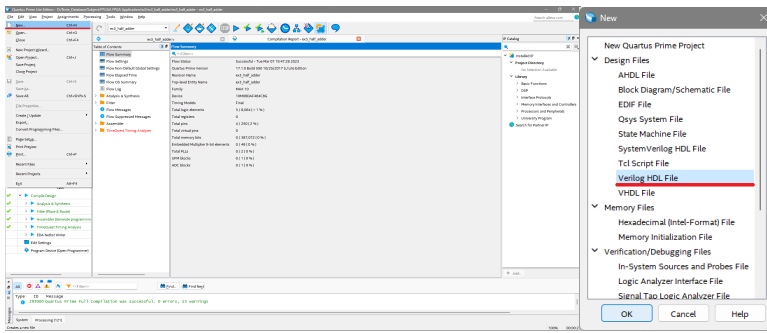

Figure 10: Select new file
1. Click "New" in the "File" menu. (Figure 10)